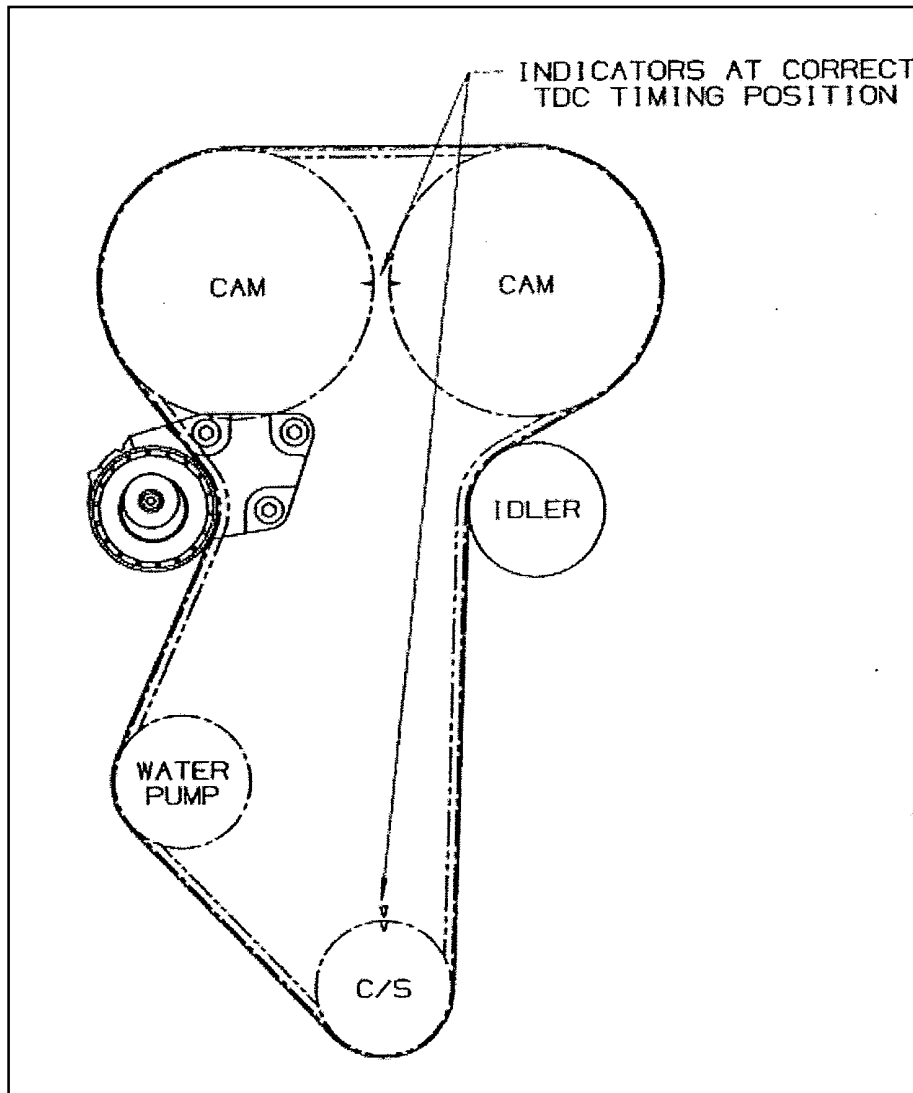

Figure 4: Belt layout for 979143 (GM/DAEWOO 1.5/1.6L DOHC)
2. Rotate the crankshaft **CLOCKWISE ONLY** to **TDC** (Top Dead Center) position (i.e. #1 cylinder firing position), follow car manufacturer's guidelines. For reference only see Fig.4.
7. Install a new timing belt being careful to engage the appropriate teeth of all the corresponding sprockets as per drive layout (Figure 4) starting with the crankshaft and working counterclockwise. **(Caution: Do not disturb the position of the crankshaft or camshaft sprockets during this procedure.)**
10. Remove the Wrench and any other tools used for the alignment of the TDC position, then rotate the crankshaft two (2) complete revolutions manually for proper seating of the belt until the crankshaft is repositioned at the TDC position.
- ◆ Check the **TDC** alignment of the crankshaft and the camshaft, Figure 4. If the alignment of all the sprockets is within the guidelines, the installation is complete.